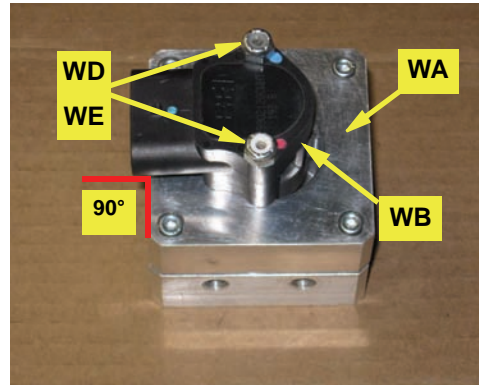

Figure 1a: Prepared WAS housing/connector
- Using the provided hardware **WD** and **WE**, attach the WAS **WB** to the WAS housing **WA**. Install the bolts up through the bottom of the housing. The WAS wire connector **WB** can be mounted 90° to any of the WAS housing sides. (Figure 1a.)